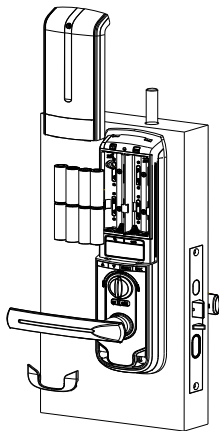

Figure 1
- First, install the screws into the right holes, as shown in the following figure 1.